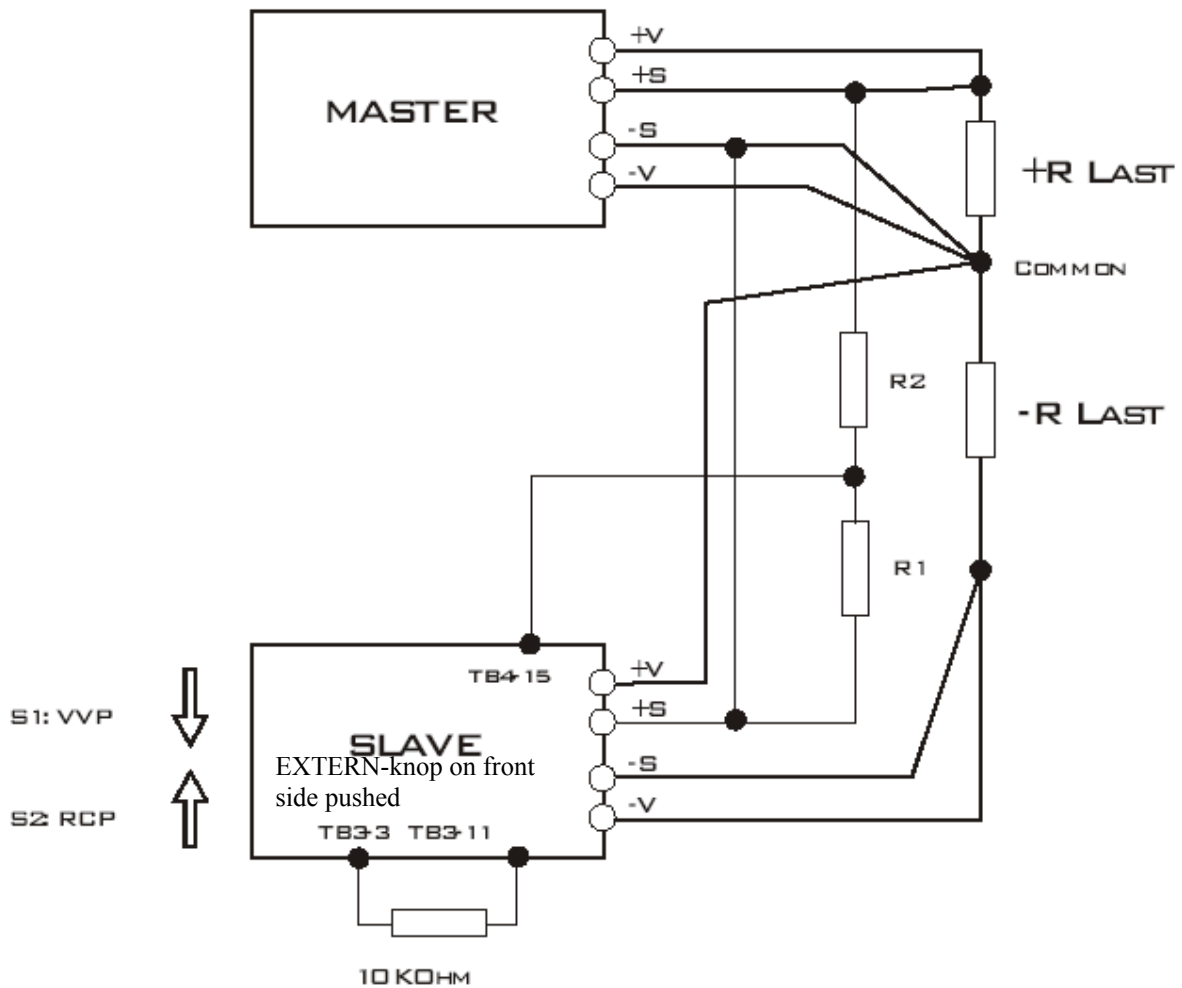

Fig.10
The tracking mode permits to structure a symmetric power supply. For this, two ATLAS units are necessary, the units with positive output acts as master. The configuration is given in fig.10.
8. Between +S from master and +S from slave two resistors in series (R1, R2, see fig.10).
They should have a temperature coefficient of less than $20\text{ppm}/^\circ\text{C}$ and should be oversized ($> 2\text{W}$), in order to avoid stability faults. R1 should have a value between 1Kohm and 10KOhm, R2 is given by the formula from fig.10.
In the configuration shown in fig.10, the currents flowing through +R load and -R load must not be equal. The master can limit only the current through +R load. The current limit from slave can be set with a resistance (< 10KOhms), connected between TB3-3 and TB3-11 (see chapt 3.6.1). Power must be switched on and off simultaneously on both units.